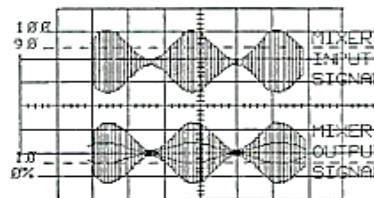

Figure 3-25.
18. Adjust the MIXER'S potentiometer for a clear, sharp output signal. Compare the output signal on channel 2 with the MIXER'S input signal on channel 1. Is there another modulation envelope, similar to the signal shown in Figure 3-25, within the AM signal at the MIXER output?